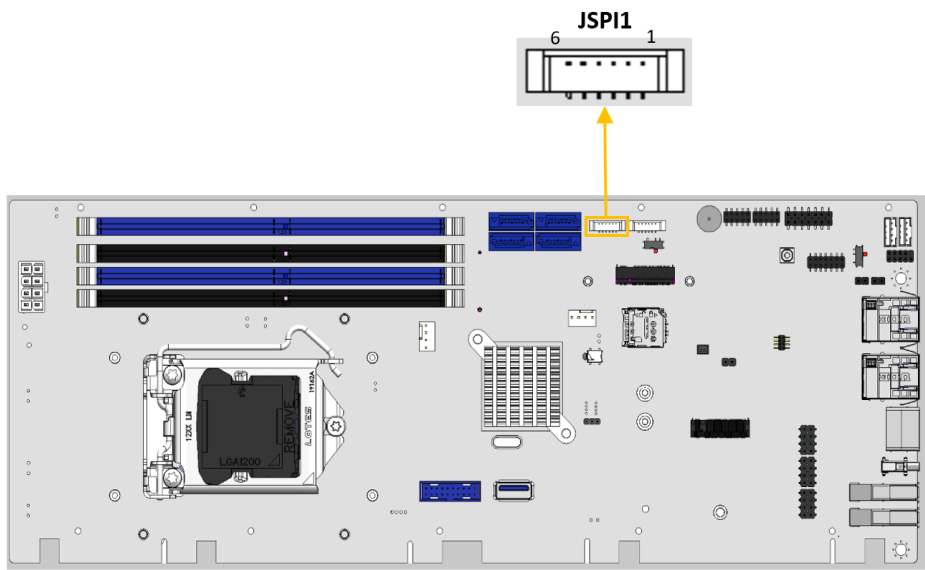

Figure 3-22: Flash SPI ROM Connector Location
- CN Location: See Figure 3-22